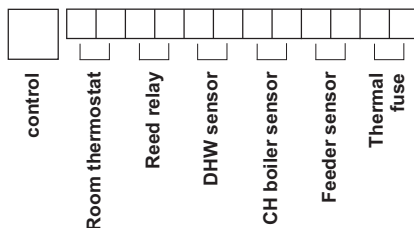

Fig.4 Wiring diagram to connect sensors
2. Install all necessary sensors (and reed relay for the piston feeder) acc. to Fig.4 and Fig.6.
You can connect a room thermostat (see Fig. 4) that controls the operation of the central heating pump, depending on the room temperature. In order to operate the pump the boiler must also reach its corresponding minimum temperature.